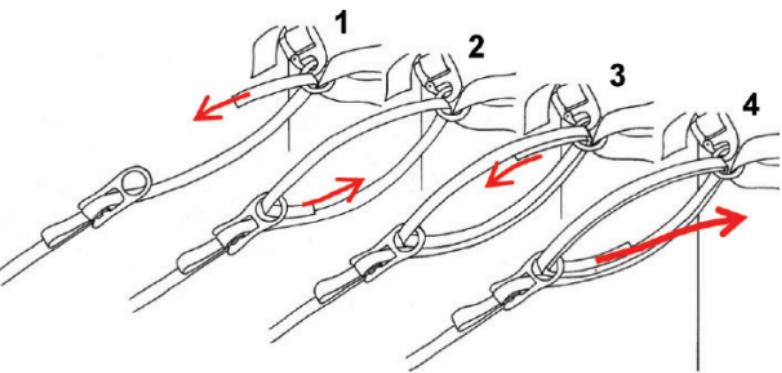

Fig. 8
- At first run the remaining line through the Steel-Ring at fixed-point 2 from the bottom up (Fig. 8, 1).
- Continue by following the steps shown in Fig. 8, 2–4.